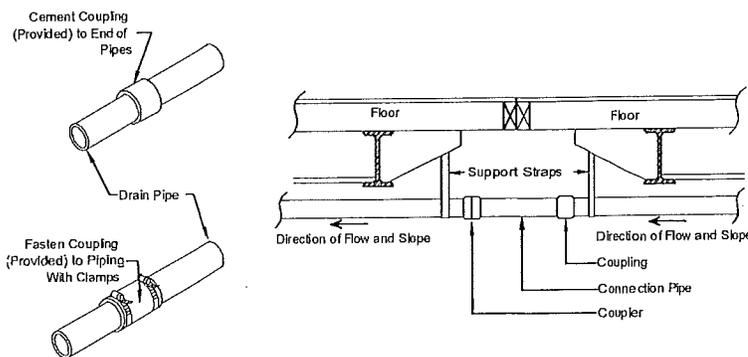

Figure 47. Drain crossover connection
2. **Assemble pipes.** Using the drain schematic drawing provided with the home, begin assembling the DWV system starting at the location farthest from the sewer/septic connection and working towards the outlet, fastening the pipe with cement or adjustable screw-clamp connectors, if provided (Figure 47). As the system is assembled, support the piping with temporary blocking. Unless otherwise noted on the schematic diagram, provide a minimum 1/4 inch per foot slope towards the sewer/septic using a plumber's level. Where a slope of 1/4 inch per foot cannot be maintained, use a minimum slope of 1/8 inch per foot and install of a full-size clean-out at the uppermost point of the run (Figure 48).